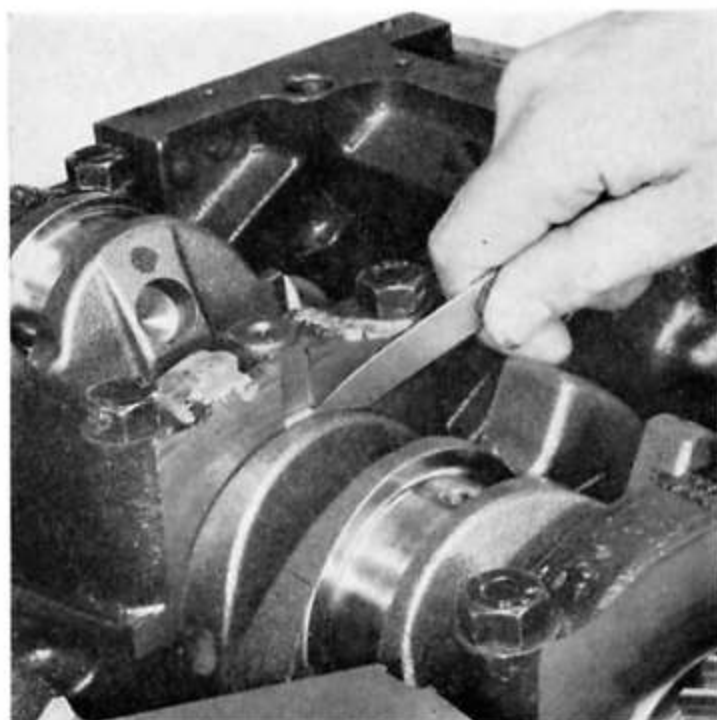

Fig. 19
3. Check the crankshaft end-float. Move the crankshaft forwards to take up the end-float in one direction and insert feeler blades between the crankshaft and the front thrust washer (see Fig 19). Check that the end-float is between 0.08 and 0.28 mm. (0.003 and 0.011 in.). If necessary, fit oversize thrust washers to rectify excessive end-float.